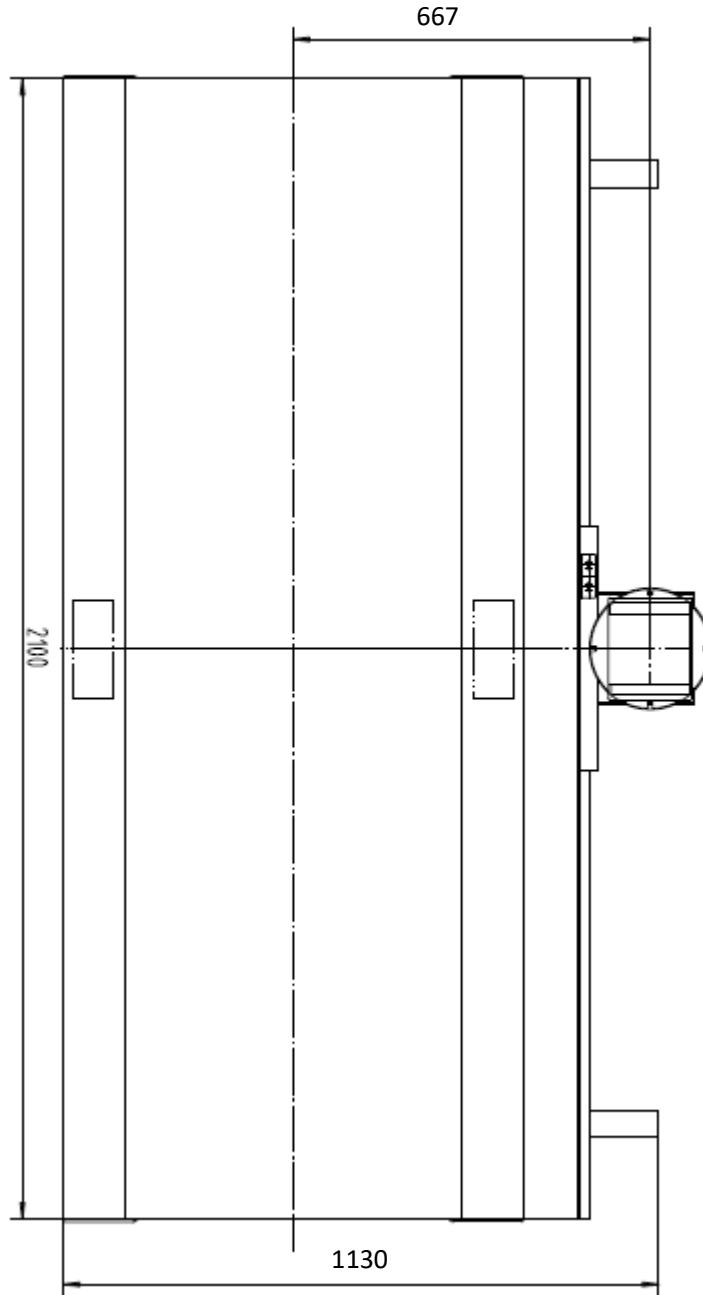

Figure 5-12 Table Top Dimensions
- Radiographic Table - Figure 5-10 through Figure 5-12.